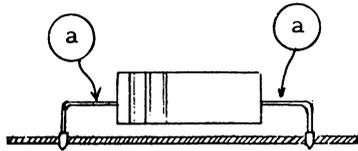

Figure 3-4
(1) Procedure One
- (a) Remove the faulty component by cutting the leads approximately 1/8 of an inch from the component body. (a, Figure 3-4.)
(a) Remove the faulty component by cutting the leads approximately 1/8 of an inch from the component body. (a, Figure 3-4.)